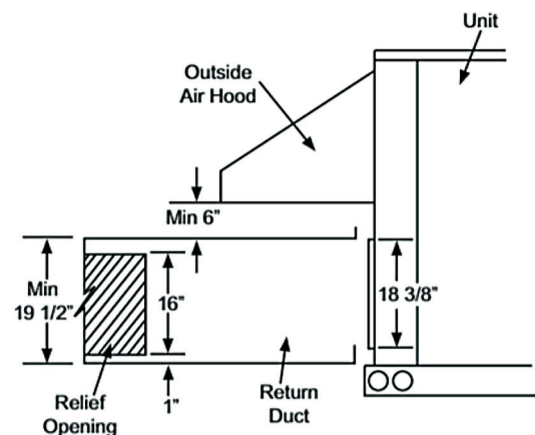

Fig. 30 — Relief Damper
1. Install the field provided horizontal ductwork onto the unit. Duct height must be at least 49.53 cm (19 1/2 in.) high, however the duct can be no taller than the top of the relief opening in the bottom panel, or airflow into the outside air hood will be restricted. See Fig. 30.
2. Cut a 40.64 cm x 91.44 cm (16 in. x 36 in.) opening in the return duct for the relief damper (see Fig. 30).